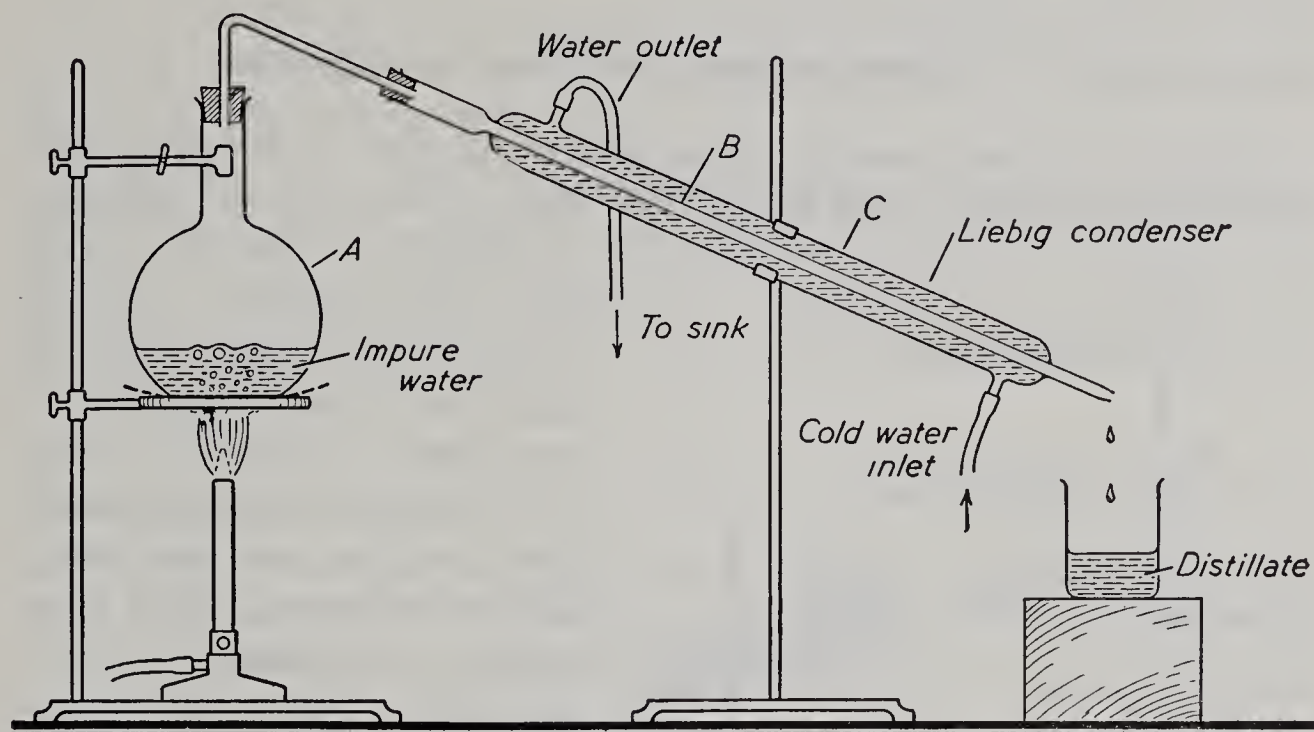

Fig. 36. The distillation of water using a Liebig condenser.
2. Set up a distilling apparatus as shown in Fig. 36. Pour the mixture from Procedure 1 into the flask (A), connect the lower rubber